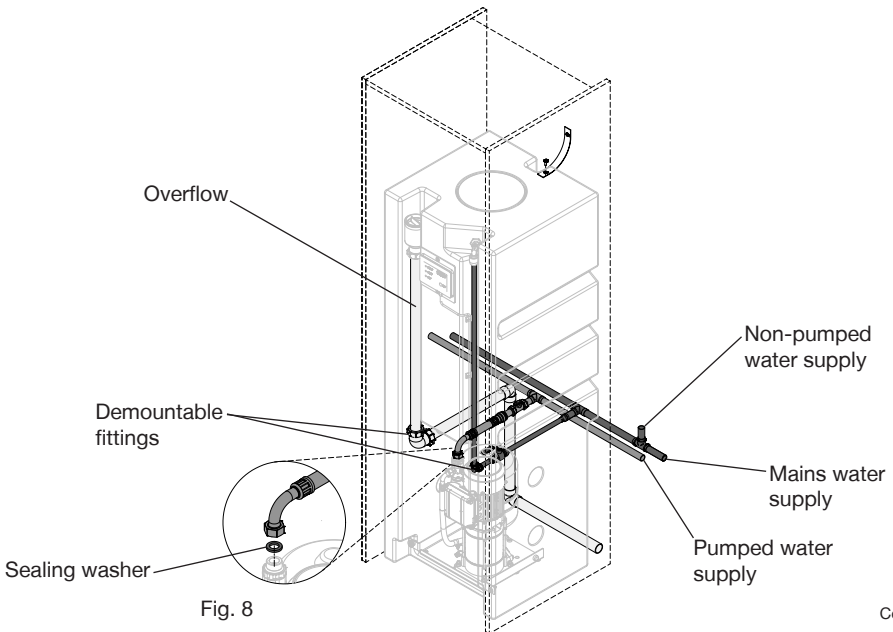

Fig. 8
- Ensure there is a demountable joint in the pipe to allow the removal of the iBoost if needed (see Fig. 8).
4.13 **Connection to warning pipe:** The overflow fitting is designed to use 21.5 mm OD plastic waste pipe. Ensure there is a demountable joint in the pipe to allow the removal of the iBoost if needed (see Fig. 8). The warning pipe must be free to vent to atmosphere either via a tundish or a dedicated external pipe.
Connect the services using isolation valves and demountable fittings (push-fit or compression) where shown in Fig. 8. The positioning of these fittings allow the iBoost to be removed without cutting pipes or draining the system.